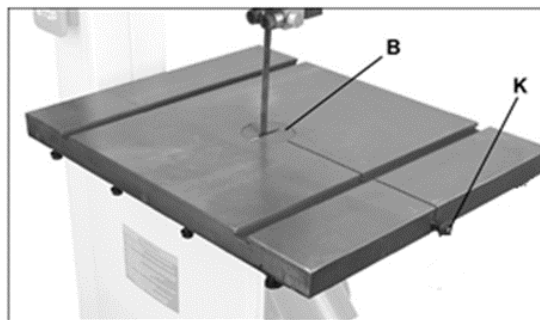

Figure 5-5: table and guide rail installation
2. Pull table pin (K, Figure 5-5) out of its slot, and remove table insert (B).